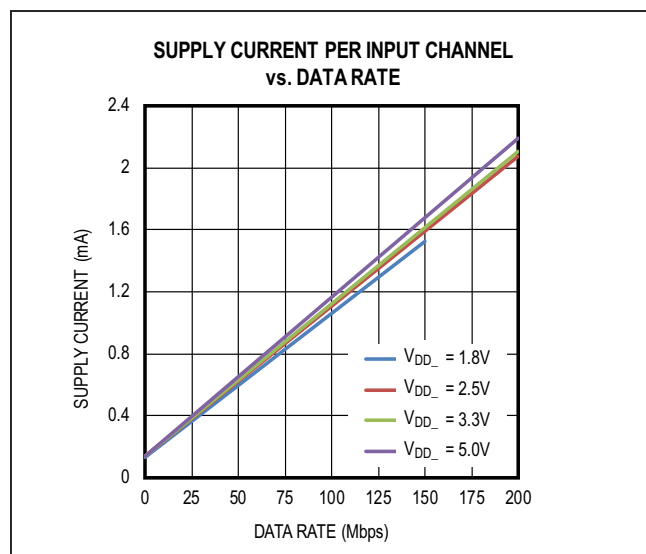
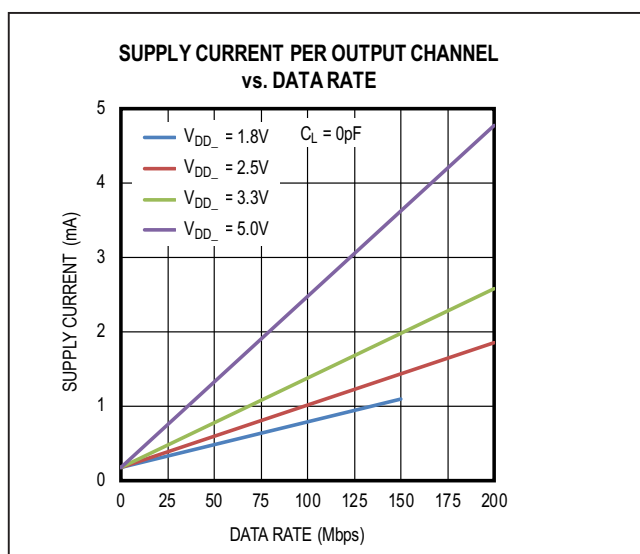

Figure 7. Supply Current Per Input Channel
Figure 8. Supply Current Per Output Channel
The required current for a given supply (V_{DDA} or V_{DDB}) can be estimated by summing the current required for each channel. The supply current for a channel depends on whether the channel is an input or an output, the channel's data rate, and the capacitive or resistive load if it is an output. The typical current for an input or output at any data rate can be estimated from the graphs in Figure 7 and Figure 8. Please note the data in Figure 7 and Figure 8 are extrapolated from the supply current measurements in a typical operating condition.
The total current for a single channel is the sum of the “no load” current (shown in Figure 7 and Figure 8), which is a function of Voltage and Data Rate, and the “load current”, which depends on the type of load. Current into a capacitive load is a function of the load capacitance, the switching frequency, and the supply voltage.
- ISDO operating at 3.3V and 10Mbps, consuming 0.24mA, estimated from Figure 7.
- $\overline{IFAULT}$ operating at 3.3V and DC, consuming 0.14mA, estimated from Figure 7.
- OAUX operating at 3.3V and 1Mbps, consuming 0.19mA, estimated from Figure 8. I_{CL} on OAUX for 10pF capacitor at 3.3V is 0.017mA.
- OSDI operating at 3.3V and 10Mbps, consuming 0.30mA, estimated from Figure 8. I_{CL} on OSDI for 15pF capacitor at 3.3V is 0.25mA.
- OSCLK operating at 3.3V and 20Mbps, consuming 0.42mA, estimated from Figure 8. I_{CL} on OSCLK for 15pF capacitor at 3.3V is 0.50mA.
- $\overline{OCS}$ operating at 3.3V and 2.5Mbps, consuming 0.21mA, estimated from Figure 8. I_{CL} on $\overline{OCS}$ for 15pF capacitor at 3.3V is 0.062mA.
- IAUX operating at 2.5V and 1Mbps, consuming 0.15mA, estimated from Figure 7.
- ISDI operating at 2.5V and 10Mbps, consuming 0.23mA, estimated from Figure 7.
- ISCLK operating at 2.5V and 20Mbps, consuming 0.33mA, estimated from Figure 7.
- $\overline{ICS}$ operating at 2.5V and 2.5Mbps, consuming 0.16mA, estimated from Figure 7.
- OSDO operating at 2.5V and 10Mbps, consuming 0.27mA, estimated from Figure 8. I_{CL} on OSDO for 15pF capacitor at 2.5V is 0.19mA.
- $\overline{OFAULT}$ operating at 2.5V and 1Mbps, consuming 0.18mA, estimated from Figure 8. I_{RL} on $\overline{OFAULT}$ for 10k Ω resistor at 2.5V is 0.25mA.